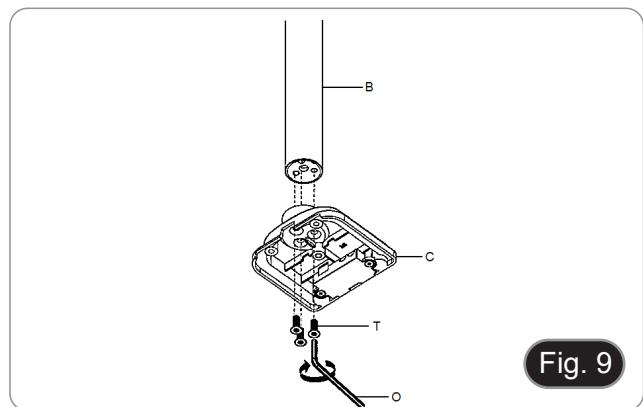

Fig. 9
1. Attach the pillar (B) to the table clamp (C) using the three screws (T). (Fig. 9)